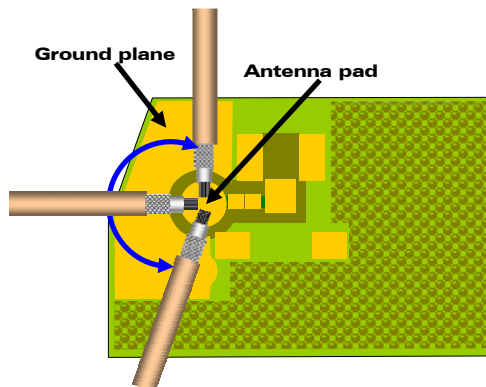

Figure 37: Antenna connection
When the antenna is connected to the Wireless CPU through a 50 Ω coaxial cable, the coaxial cable must be connected to both the "Antenna pad" (or Round pad) and the "Ground pad" (see Figure 37).
- To obtain a good ground connection, the cable ground must be connected to the ground pad, as shown in Figure 37.